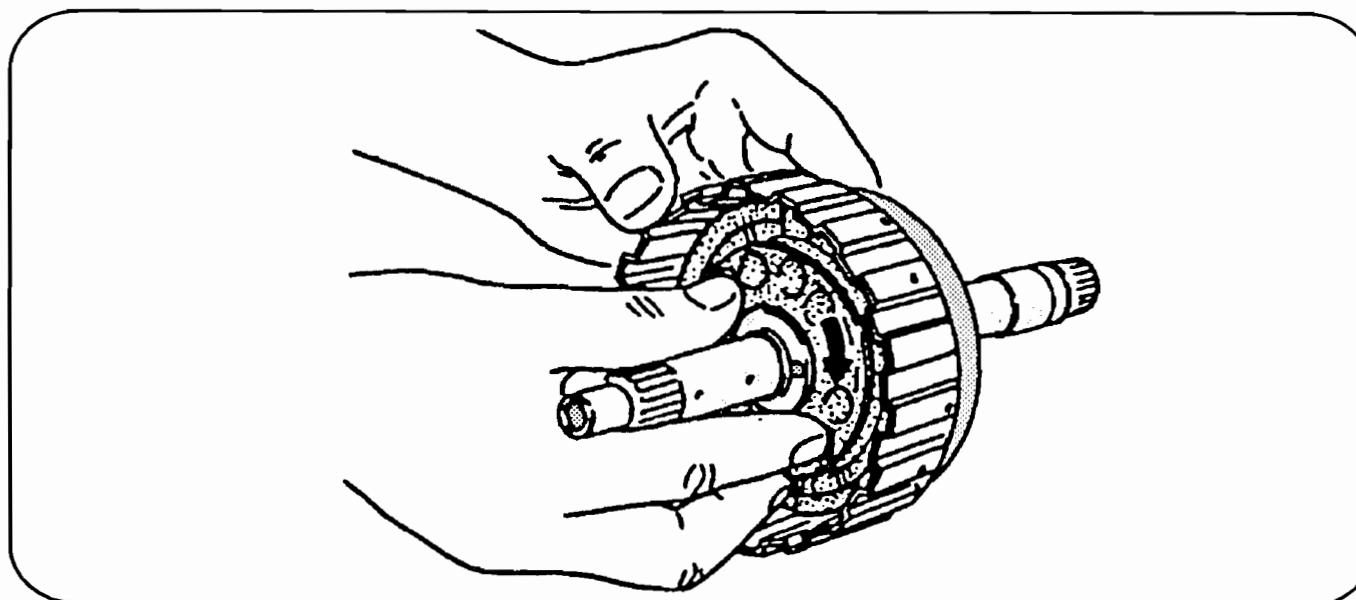

Figure 53
**CORRECTIO** #1-Remove the outer lip seal from the direct clutch piston and install the piston back into the direct drum with only the "D" ring in the piston. Rotate the piston and check the "D" ring for "DRAG", as shown in figure 53. "D" ring wear and/or shrinkage is what normally creates this complaint, and simply replacing the "D" ring solves the problem.